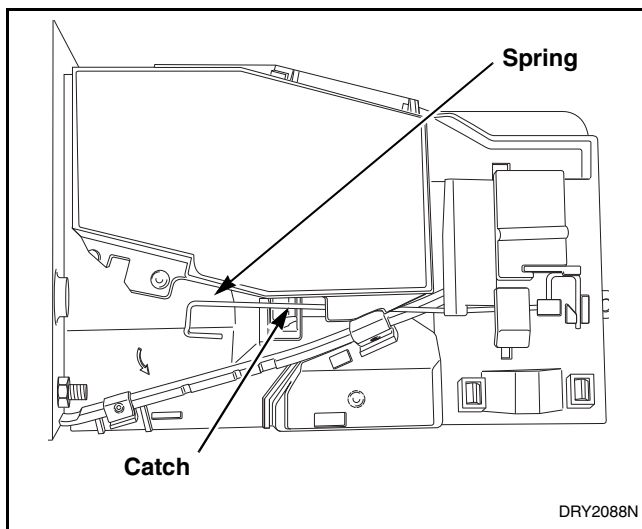

Figure 17
**Coin Drops with Old-Style Spring (refer to Figure 17):**
- (1) Move spring downward until cover catch is free. Refer to Figure 17.